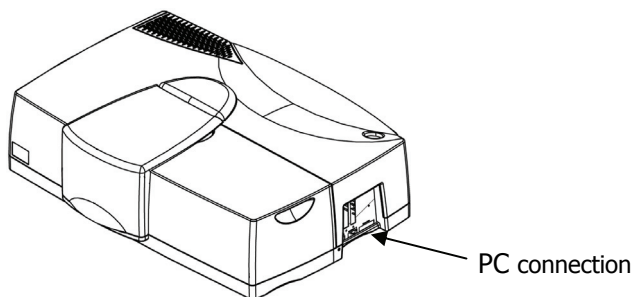

Figure 14 PC Connection
- The PC is connected using the connection marked COMPUTER on the right side of the instrument, as shown in Figure 14.